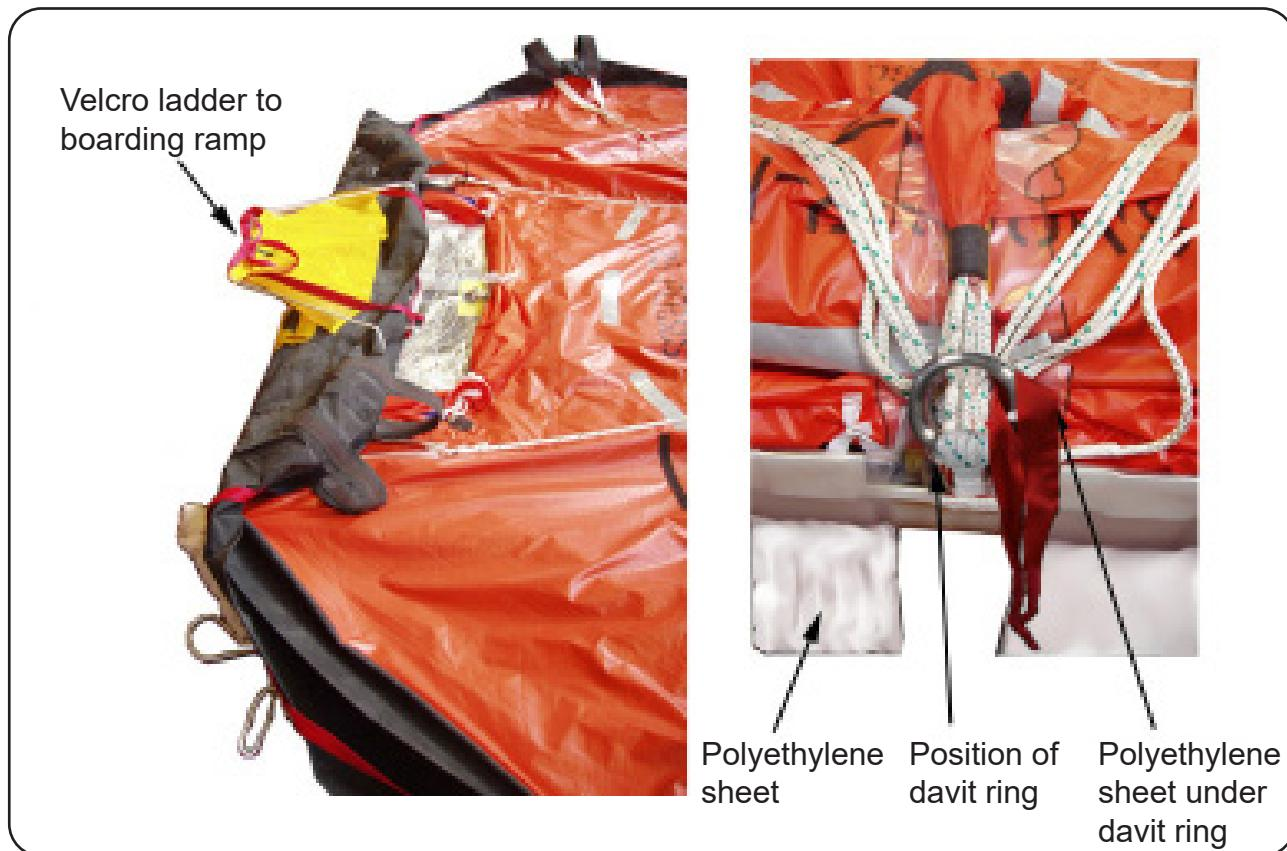

FIGURE 832B
- 5.36 Locate the bowsing line patches on the bottom buoyancy tube below the doorway. Refer to FIGURE 831A. Tie the left doorway bowsing line to the left doorway bowsing patch and the right doorway bowsing line to the right doorway bowsing patch. Use the procedure that follows and refer to FIGURE 832B:
5.42 Collect the boarding ramp foot ladder and velcro it securely to the boarding ramp. Refer to FIGURE 832B.
Firmly grasp the floor and sides of the liferaft. Haul the liferaft forward, so as to cover the E-pack valises. Bring the davit ring towards the container cut out. Position the davit ring correctly at the container davit access point (FIGURE 832B).
5.45 Fold the polyethylene cut out flap under the davit ring. Refer to FIGURE 832B.